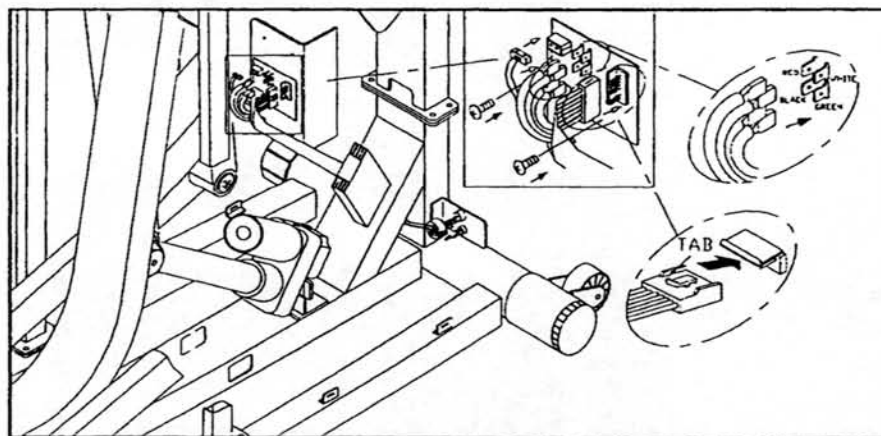

Fig.18-2
1. Replace a new ELECTRONICS PACKAGE and secure on the FRAME by screws. Plug all the connectors into the ELECTRONICS PACKAGE according to their cable color individually (see fig.18-2 & its enlarged figure).